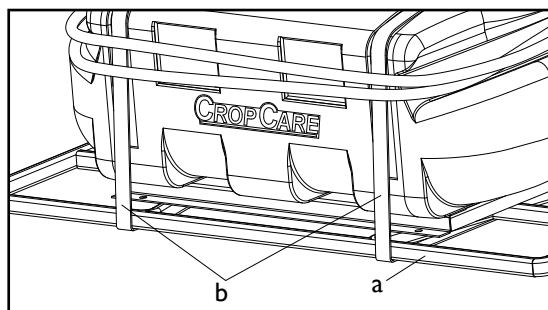

Figure 4: Mounting the sprayer with straps
3. For some temporary situations it may be more convenient to strap the sprayer to your equipment (a) with heavy-duty straps (b) (Figure 4). If you choose to strap the sprayer down ensure that it is fastened securely.